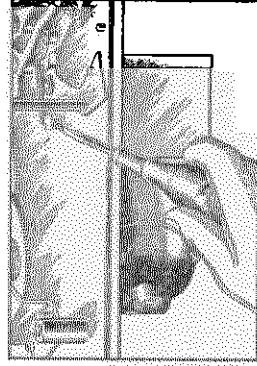
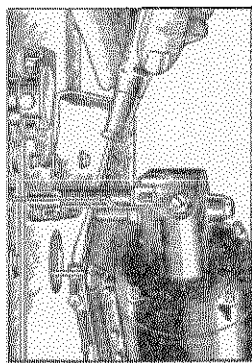

Figure 6—Adjusting tone arm locating screw
Figure 7—Adjusting base screw down screw
- (b) Improper adjustment of tone arm locating screw. This adjustment, shown in Figure 6, can be used to make a substitute adjustment for that described in (a), when the mechanism is out of the cabinet. Make the adjustment so that the needle will lower exactly $\frac{1}{16}$ " from the first groove on a standard 10-inch record. Loosen the lock nut on the adjusting screw by means of a No. 4 Spintite wrench on which the shoulder has been ground sufficiently thin for clearance. Do not attempt to make this adjustment without first loosening the lock nut. Tighten the lock nut when the proper adjustment has been made.
(4) FAILURE OF NEEDLE TO LOWER ONTO RECORD SURFACE
- (e) Incorrect adjustment of cable tension screw. The cable tension screw shown in Figure 7 should be so adjusted that the needle will lower smoothly onto the record without dropping. When this adjustment is obtained, the cable will be slightly loose when the needle is lowered onto a record. Loosen the lock nuts, turn the screw to the right or left as required and retighten the lock nut. Check the adjustment to make sure that the needle clears the record on the return of the tone arm. The needle should rise $\frac{1}{16}$ " from the record before any horizontal motion takes place.
(5) NEEDLE FAILS TO CLEAR RECORD AFTER PLAYING